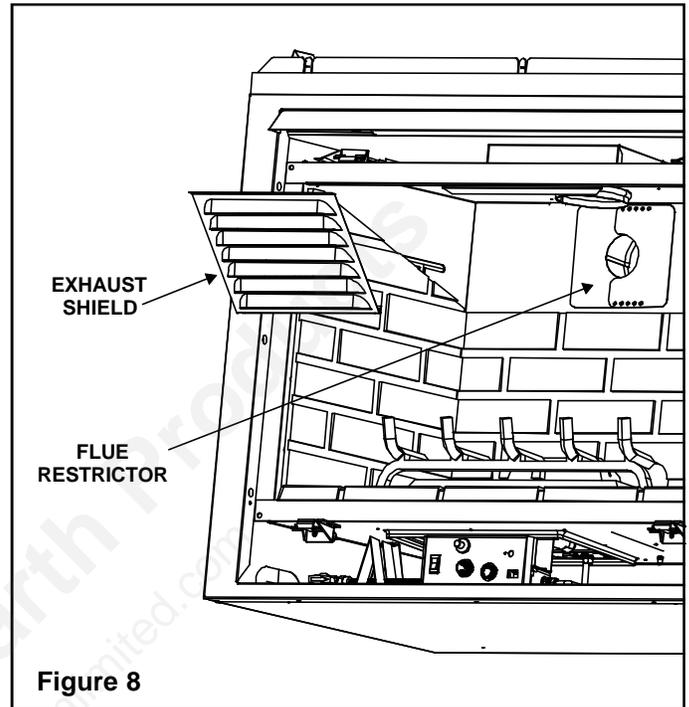

Figure 8
1. Remove Exhaust Shield using a 1/4" nut driver by removing the four screws securing it in place (see Figure 8).